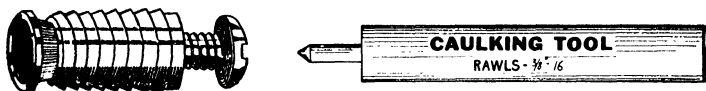
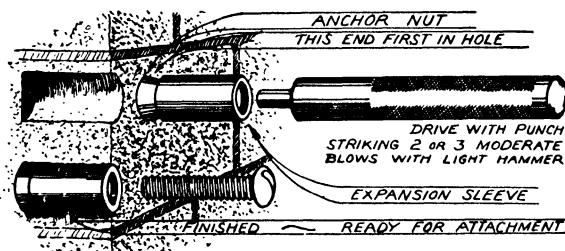

Fig. 49. Rawl Anchor and Caulking Tool
Fig. 50. Method of Setting A-J Anchors
**Screw-Anchors or Expansion-Shells.** These are made in various types, Fig. 49 showing the Rawl anchor and caulking tool and Fig. 50 showing the Ackerman-Johnson expansion shell. To install, drill a hole the proper diameter and depth, insert the anchor or shell, and expand it by using a tool provided for this purpose and a hammer.